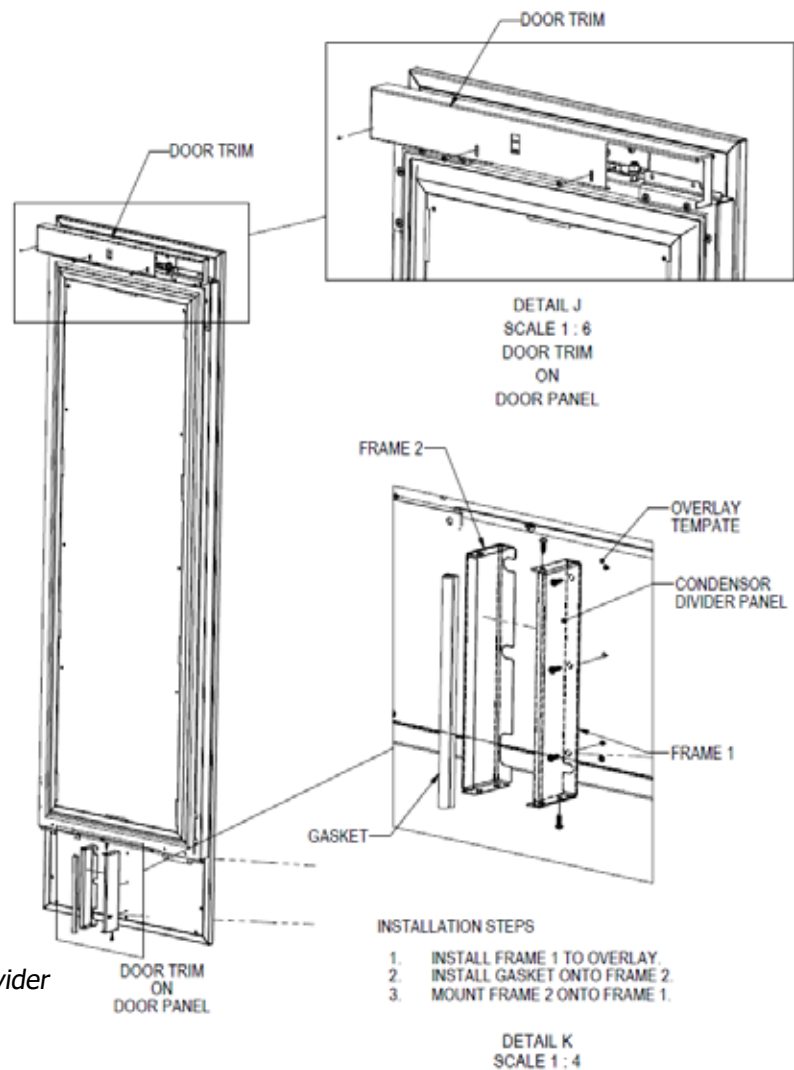

Figure 6-6. Condenser Airflow Divider
- Ensure the condenser airflow divider is installed on the lower interior portion of the door. This divider prevents direct circulation of machine compartment air. If missing, unit will run extremely inefficiently and extreme high discharge pressures and temperature which could lead to compressor damage. See Figure 6-6.